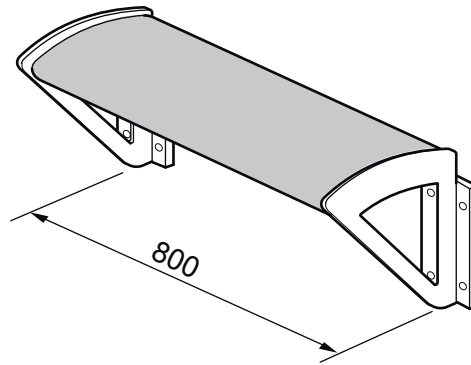

Fig. 2
- 3 Fig. 2 shows a wall-mounted bench that is used outdoors